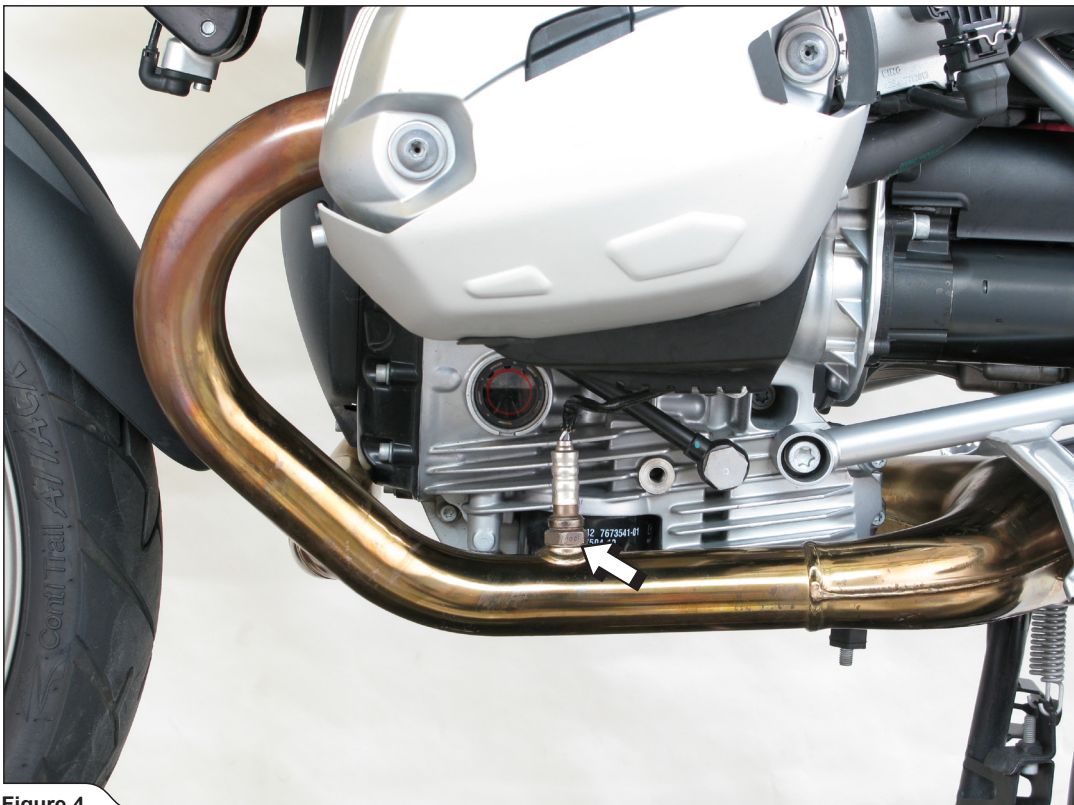

Figure 4
5. Unscrew the lambda sensor from the stock header tube. Perform the process on both sides of the motorcycle (**Figure 4**).